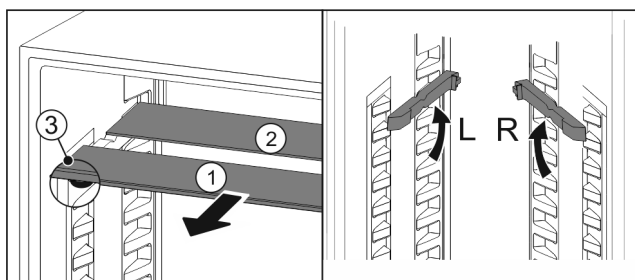

Fig. 60
- Pull the glass panels out Fig. 60 (1) from the front, one at a time.
- ▷ The glass panel Fig. 60 (1) and trim strip are at the front.
- ▷ The stops Fig. 60 (3) point down.